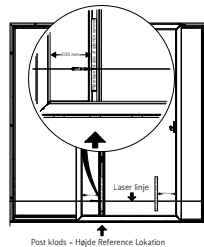

Figure 14: Laser position 1 – mark line on tape at laser height
19. Move the sash so the tape aligns with the mullion, and mark the laser line on the tape on both sides (figure 14).